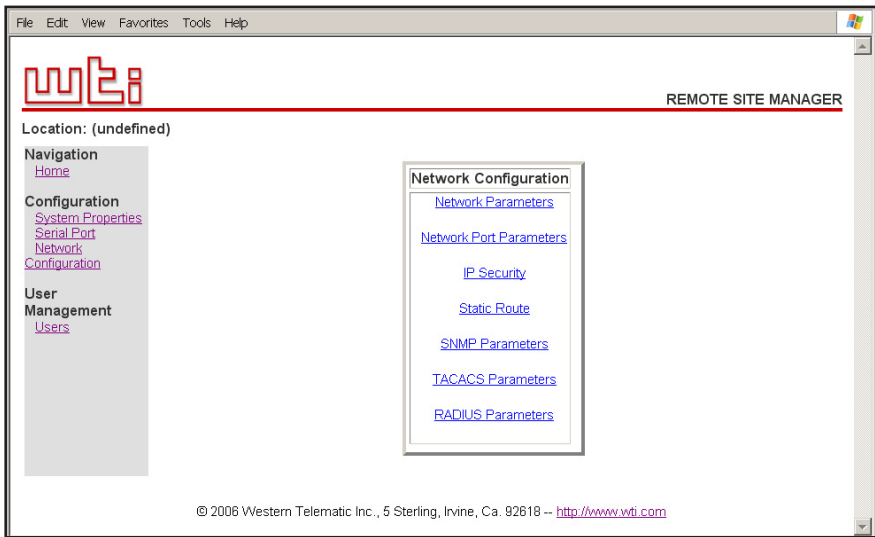

Figure 5.10: Network Configuration Menu (Web Browser Interface)
- **Web Browser Interface:** Click on the "Network Configuration" link on the left hand side of the screen. The RSM will display the Network Configuration menu shown in Figure 5.10, which allows you to access the various submenus used to configure the network port.
- **Web Browser Interface:** Click on the "Network Configuration" link to display the menu shown in Figure 5.10, then click the "TACACS Parameters" link to display the TACACS Configuration Menu.
- **Web Browser Interface:** Click on the "Network Configuration" link to display the menu shown in Figure 5.10, then click the "RADIUS Parameters" link to display the RADIUS Configuration Menu.